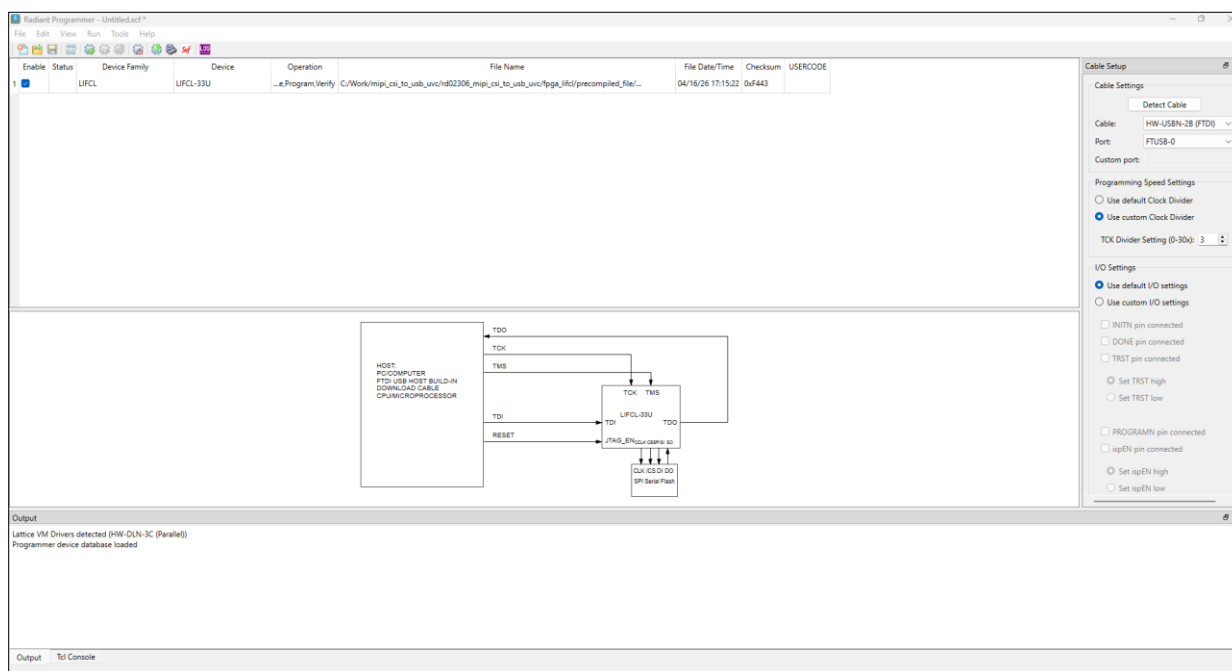

Figure 6.2. Lattice Radiant Programmer Window
3. The main interface opens, as shown in Figure 6.2.